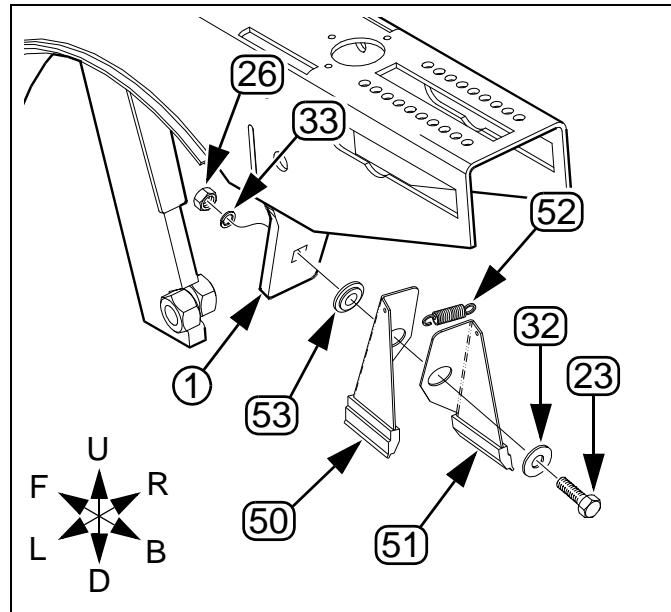

Figure 60
5. Remove one or both disc blades to gain safe access to the mount ①. Note the position of bushings and spacers for correct re-assembly (page 34).
*Refer to Figure 60*
②3 802-079C HHCS 3/8-16X1 1/4 GR5